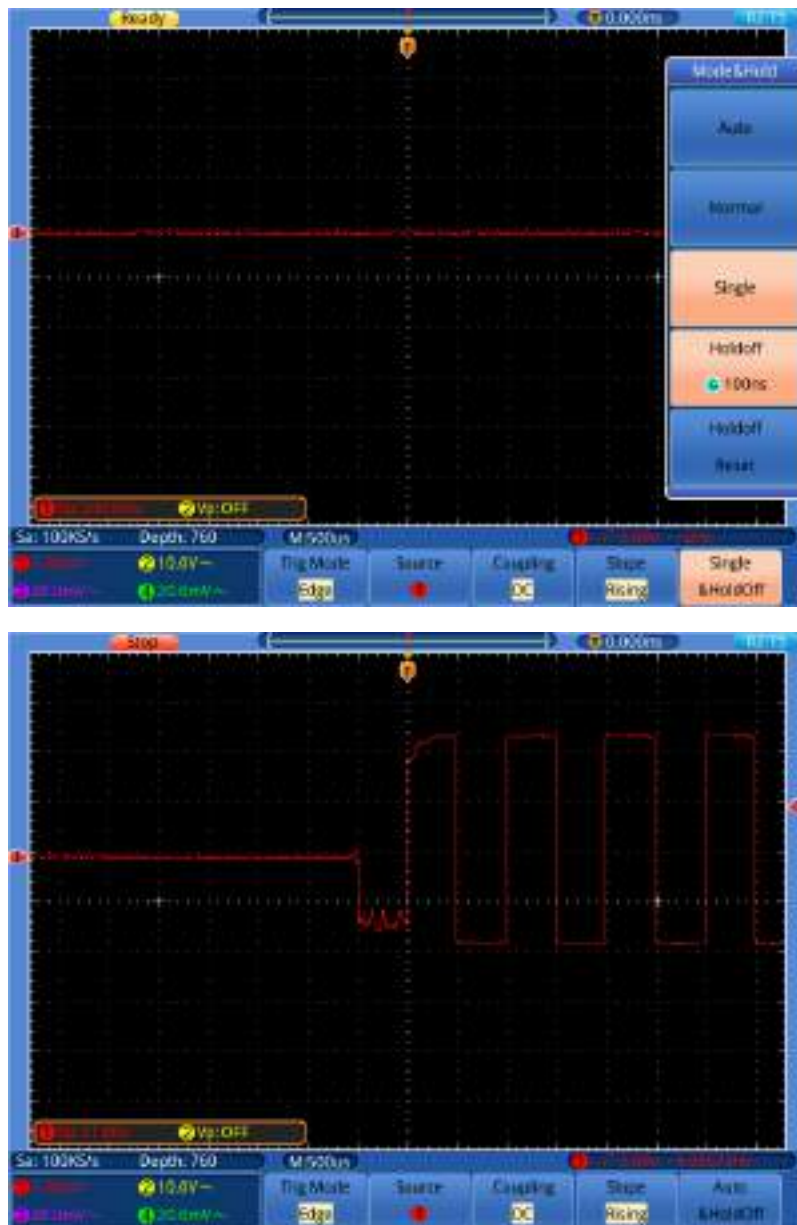

Figure 7-3 Capturing a Single Signal
- (10) Check the Trigger State Indicator on the top of the screen, if it is not Ready, push down the **Run/Stop** button and start acquiring, wait for trigger to happen. If a signal reaches to the set trigger level, one sampling will be made and then displayed in the screen. By using this approach, a random pulse can be captured easily. For instance, if we want to find a burst burr of high amplitude, set the trigger level to a slightly higher value of the average signal level, press the **Run/Stop** button and wait a trigger. Once there is a burr occurring, the instrument will trigger automatically and record the waveform during the period around the trigger time. By turning the **HORIZONTAL POSITION** knob in the horizontal control area in the panel, you can change the horizontal triggering position to obtain the negative delay, making an easy observation of the waveform before the burr occurs (see *Figure 7-3*).